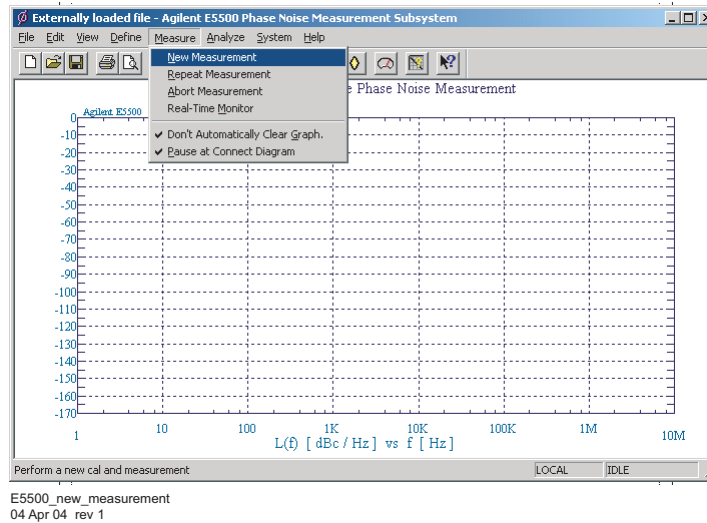

Figure 27 Selecting a new measurement
- 1 From the *Measure* menu, choose **New Measurement**. See Figure 27.